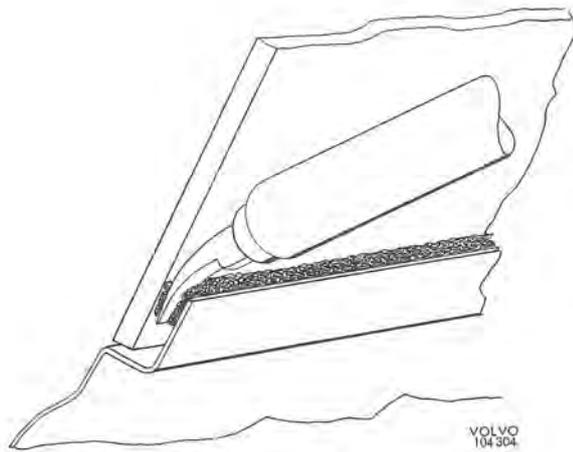

Fig. 8-25. Removing the windshield
5. Cut the windshield loose with a warm soldering iron. Insert the point of the iron in between the windshield and the body, from the inside of the vehicle, see Fig. 8-25. Then draw the soldering iron all round the windshield. The windshield can now be pressed out by hand. Cut off any remaining strands with a knife.